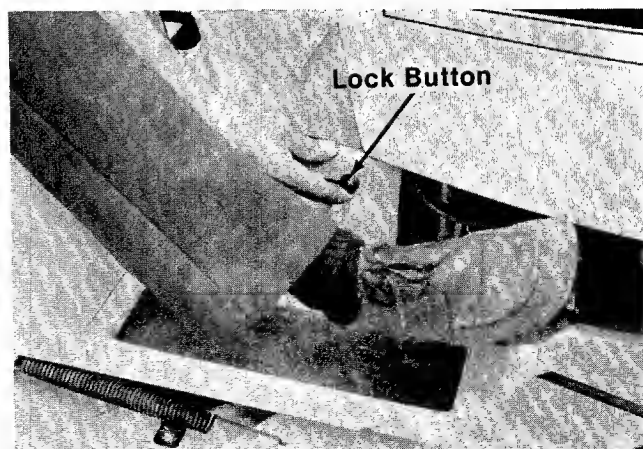

FIGURE 16.
- i. **Brake Lock.** The brake lock is located on the right hand side of the mower. To lock the brake, depress the brake pedal and lift up the lock button. The pedal will stay depressed. To release, depress the pedal. See figure 16.